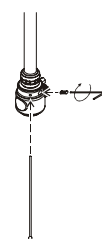

Figure 4
3. Secure the V/UHF radial elements to the bottom of the **ATAS-25** main body, using the supplied Allen wrench (Figure 4).